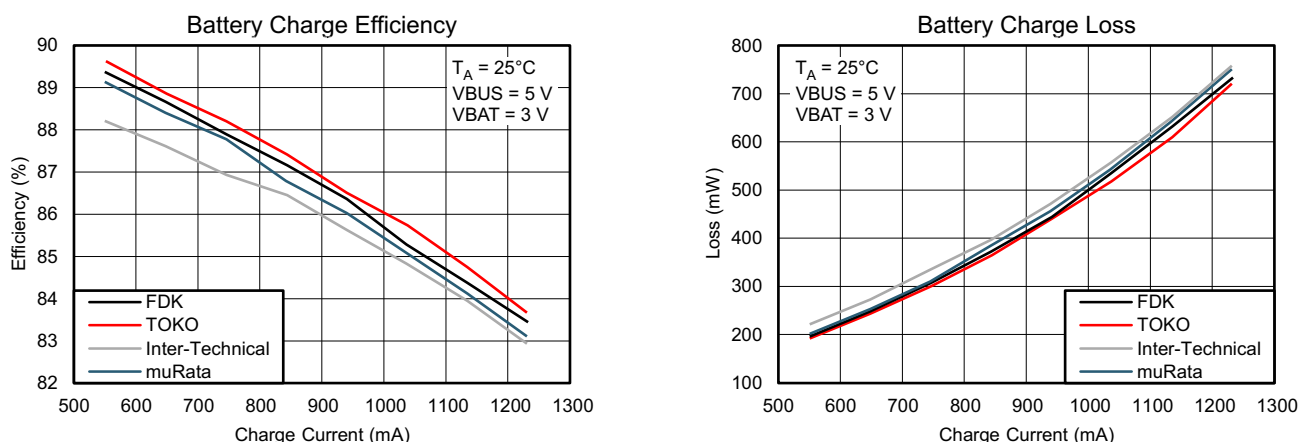

Figure 24. Measured Efficiency and Power Loss
- Measured efficiency and total power loss with different inductors are shown in Figure 24. SW node and inductor current waveform are shown in Figure 34.